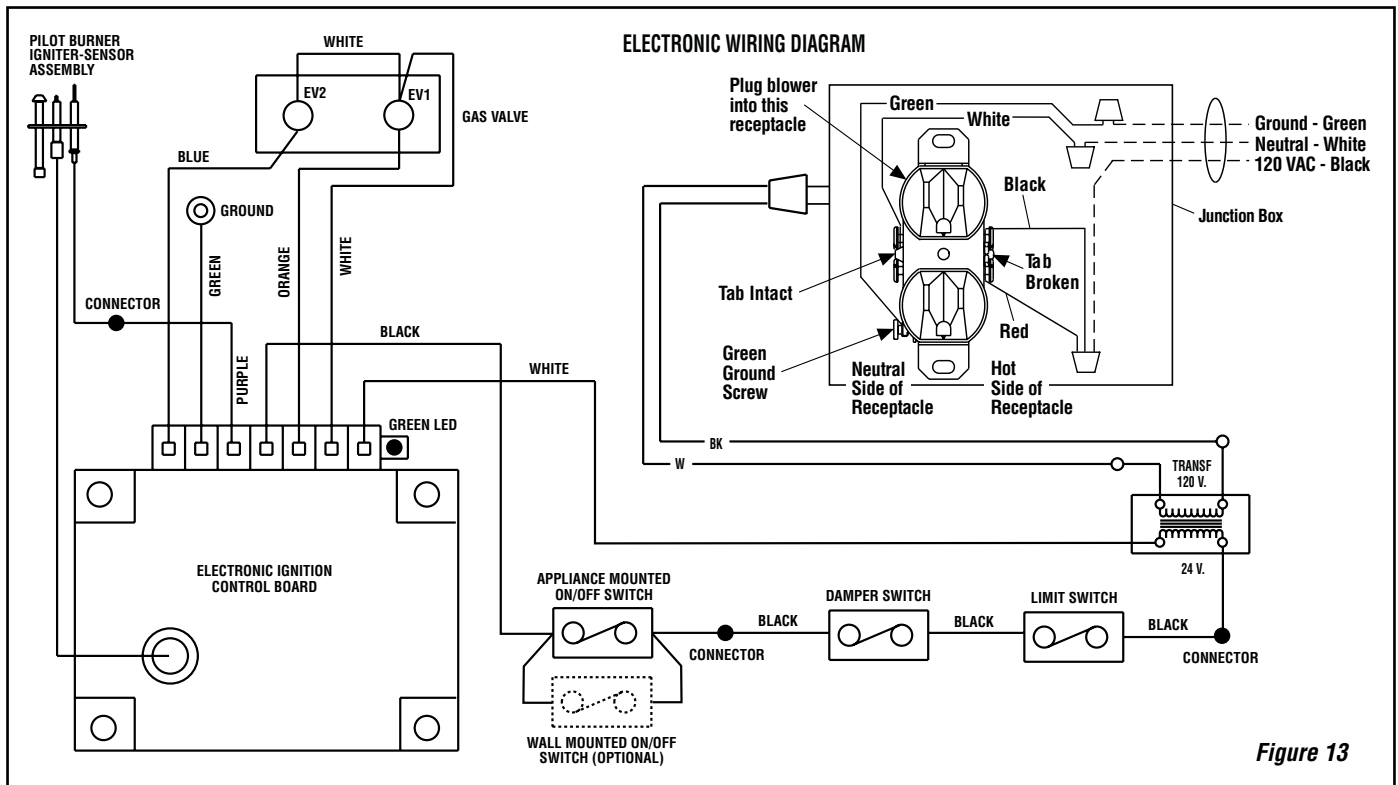

Figure 13
Locate and install a low voltage (24V) wall switch (not supplied) in the desired location. Connect the low voltage wire to this switch (**see Figure 13 on Page 8**).
1. Route a 3-wire 120V 60Hz power supply line to the appliance junction box wires and ground (**Figure 13**).